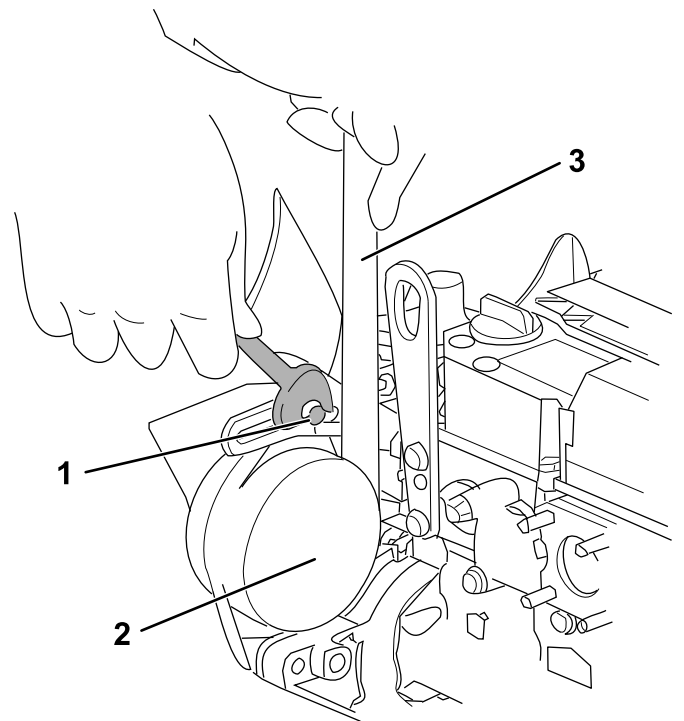

Figure 71
3. Loosen the adjusting bolts and nuts, then move the alternator using a wrench to tighten the belt to the correct tension (Figure 71).
4. Tighten the adjusting bolts and nuts (Figure 71).